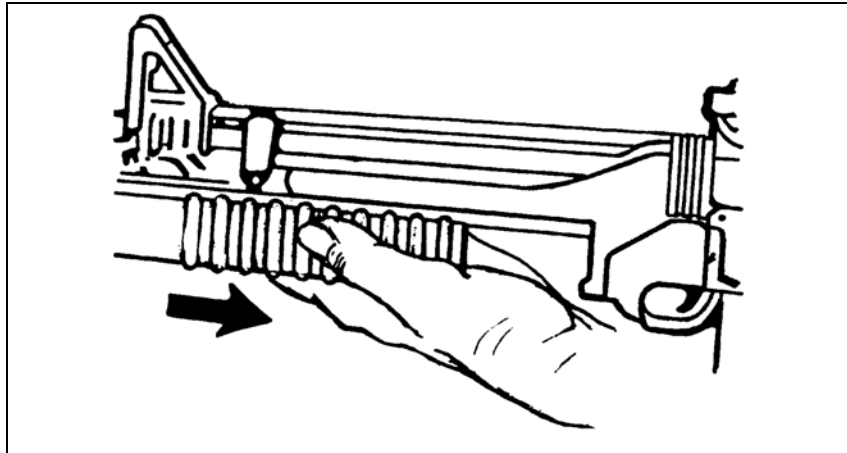

Figure 3-23. Locking the barrel.
- b. Lock the barrel by moving it rearward until it closes with a click (Figure 3-23).